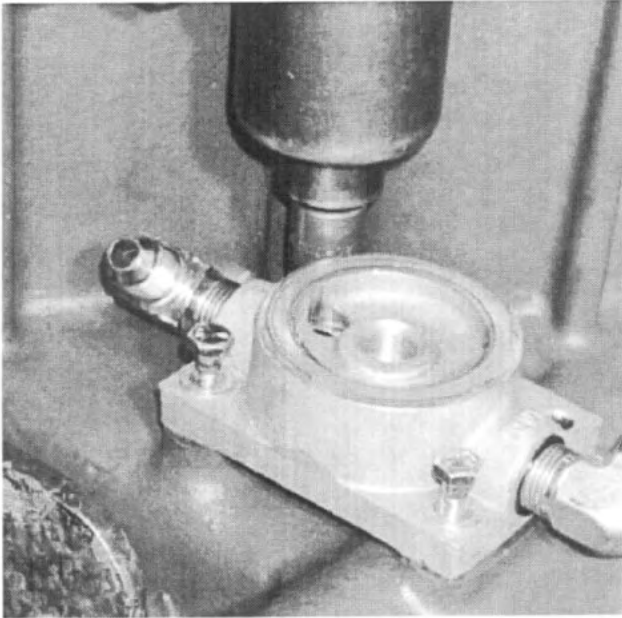

Fig. 105
42. If so equipped and removed during disassembly, attach the oil filter mounting base. Note the inlet and outlet positions as marked. See Fig. 105.